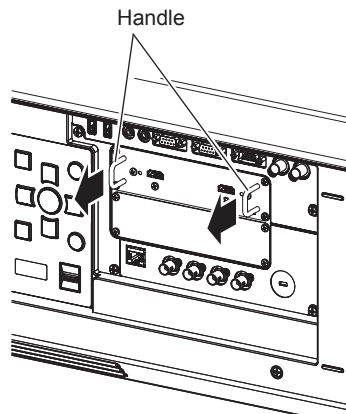

Fig. 1
1) Remove the Interface Board. (Fig. 1)